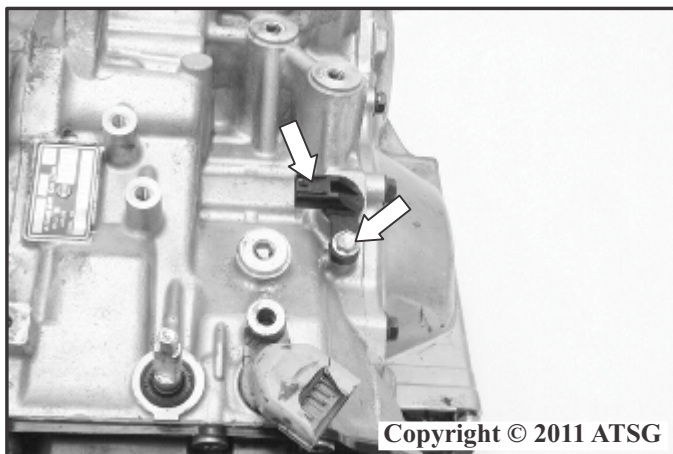

Figure 21
8. Remove the output speed sensor bolt then carefully remove the output speed sensor with a twisting motion as shown in Figure 21.